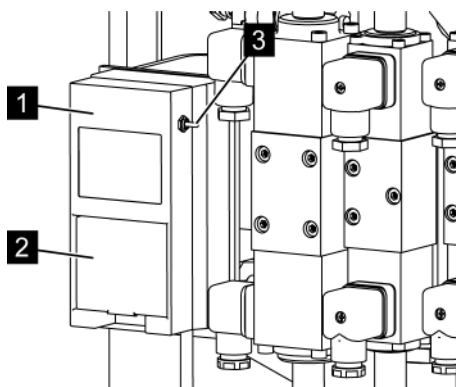

Fig. 105: Charging station
4. ➔ Remove the charged battery (Fig. 105/2) from the charging station (Fig. 105/1) and insert the empty battery. Make sure that the toggle switch (Fig. 105/3) is in the 'on' position.
In case of longer downtime, switch the charging device (toggle switch Fig. 105/3) to the 'off' position) so that the machine's main battery will not discharge.